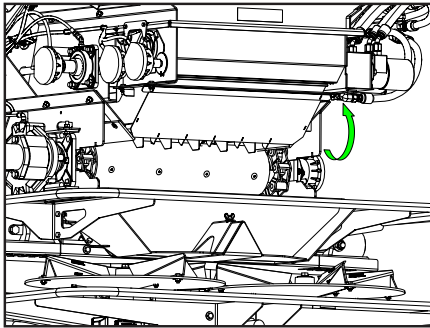

Figure 4B
5. Figure 4B - Lift Lower Divider to bottom of MULTI BIN, align holes and loosely install front and rear hardware.